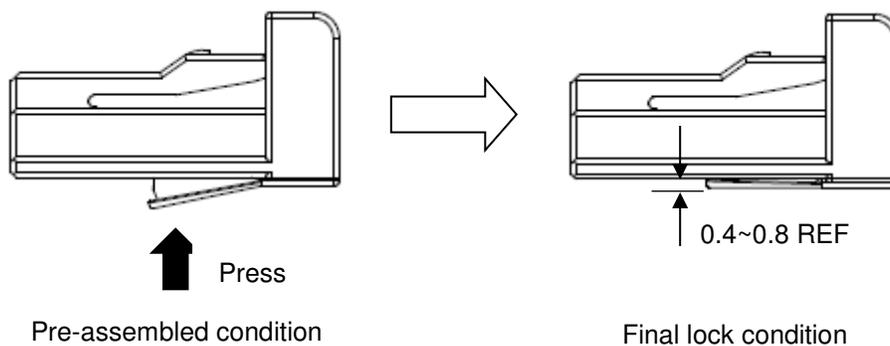

Fig.6
- (1) After insertion of all the 0.64II female contacts, press the hinge part for final lock condition. The double lock operation is finished as shown in Fig.6 final lock condition.